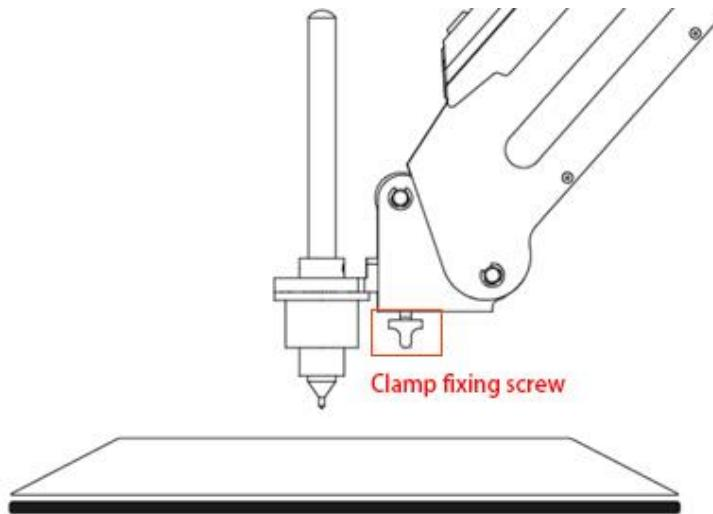

Figure 5.21 Install a writing and drawing kit
**Step 2** Fasten the writing and drawing kit to the end of Dobot Magician with a clamp fixing screw, as shown in Figure 5.21.